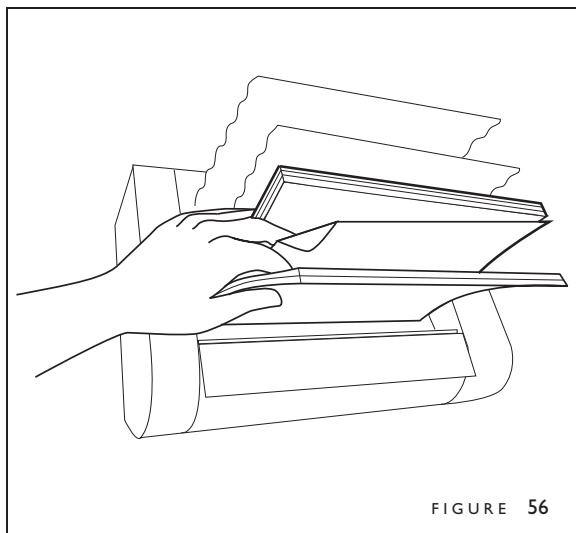

FIGURE 56
5. While the binder is re-melting the spine adhesive, pinch the front and back portions of the document with one hand, leaving the bent page free (figure 56). When the clamps start to open and the display reads "EDIT NOW," immediately pull the bent page from the document. (Holding the front and back portions of your document keeps the remaining pages in place.) If the page doesn't remove easily the first time, simply repeat this step.